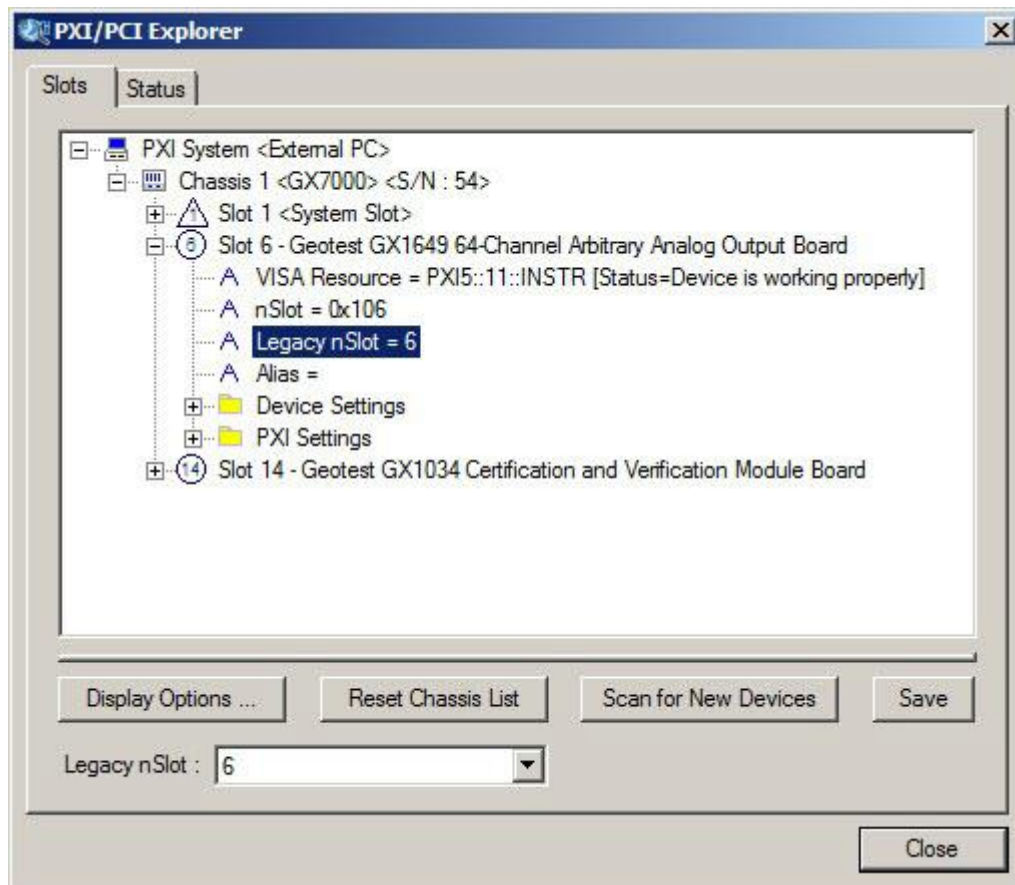

Figure 3-3: PXI/PCI Explorer
5. Carefully slide the PXI board to the rear of the chassis, make sure that the ejector handles are pushed out (as shown in Figure 3-3).